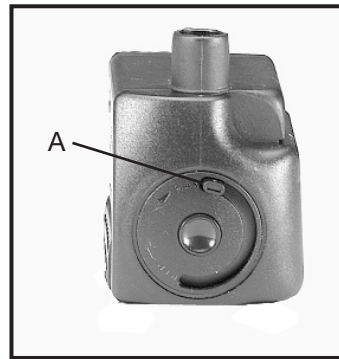

Fig. 22B
The flow rate dial (A) Fig. 22B, should be set on the maximum setting.